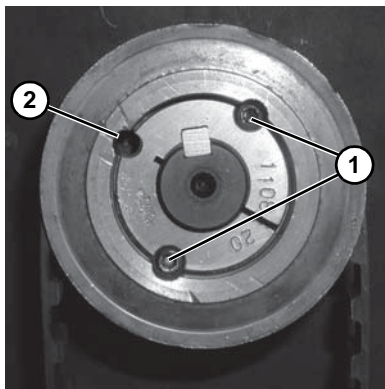

Figure 16
2. Remove taper-lock screws (**Figure 16, item 1**). Insert one (1) of taper lock screws in remaining hole (**Figure 16, item 2**). Tighten screw until pulley is loose. Remove pulley and taper hub assembly.